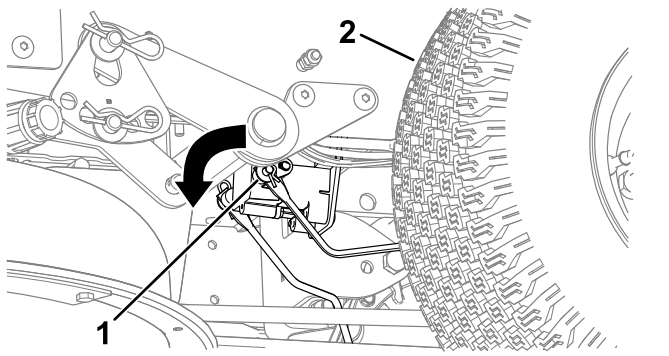

Figure 47
3. Locate the shaft on the electric brake where the brake link arms are connected (Figure 47).
4. Rotate the shaft to release the brake (Figure 47).